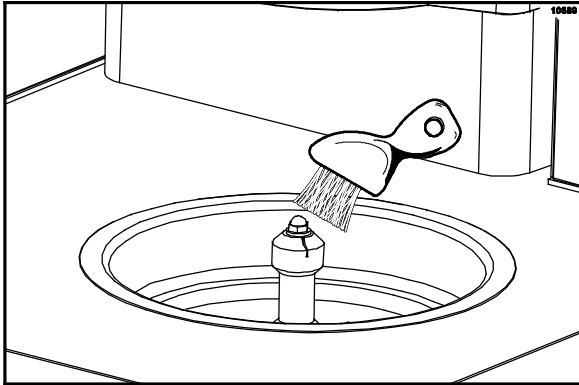

Figure 118
69. Remove the rinse station assembly. Brush clean the rinse station, using the spray bottle of cleaning solution and the spout brush. Pay particular attention to the rinser head and the drain area. (See Figure 118.)